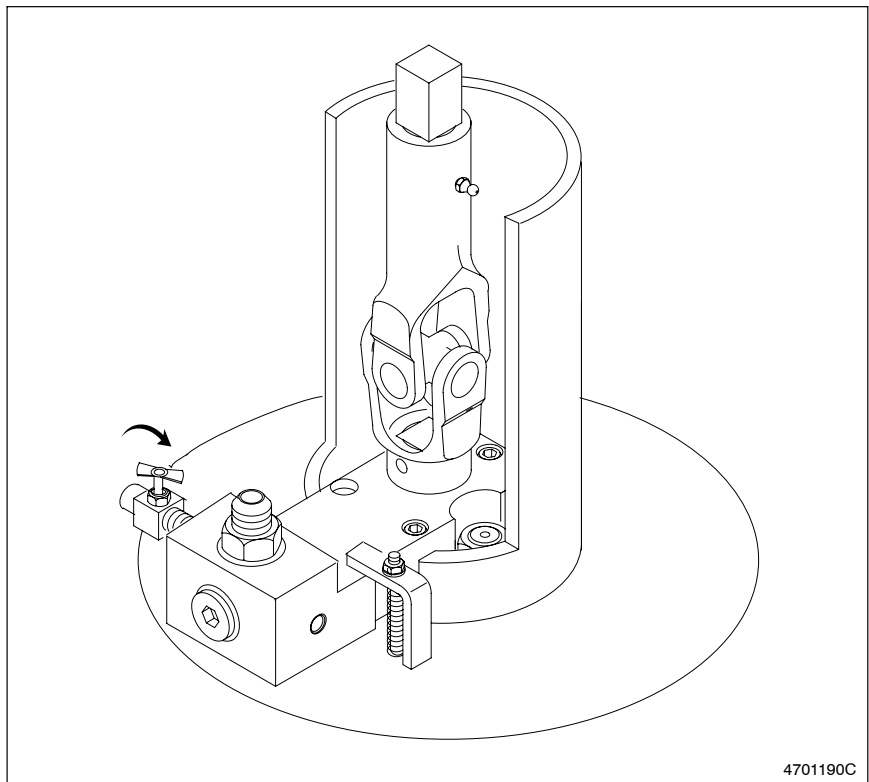

Fig. 5-1 Opening the Manifold Drain Valve
3. See Figure 5-1. Open the gear pump manifold drain valve to relieve residual hydraulic pressure.